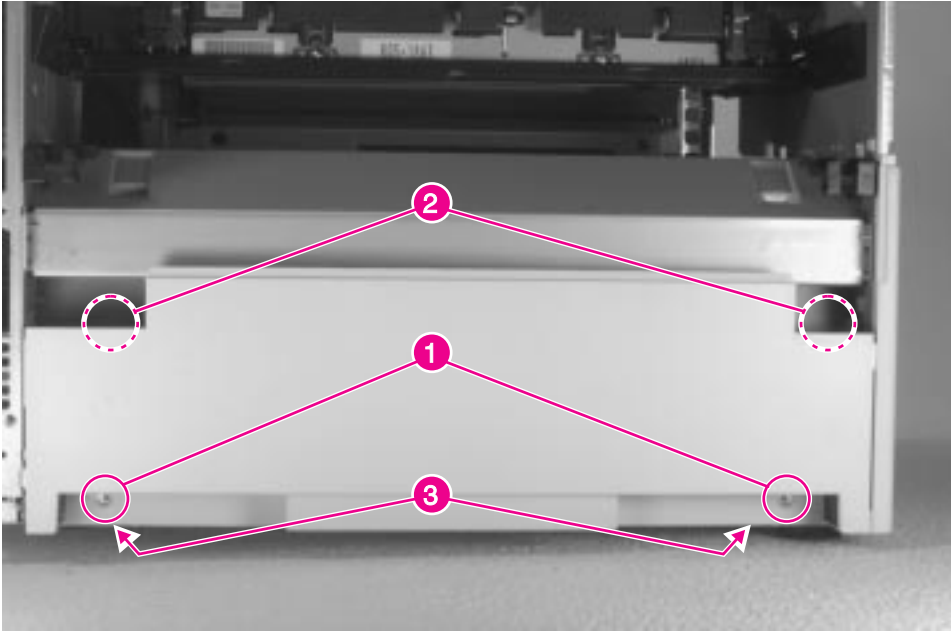

Figure 6-8 Left Lower Cover
- 2 Remove 2 screws (figure 6-8, callout 1).
- 3 Press down firmly on the top cover outer ends to release the retaining tabs on the inside of the cover (figure 6-8, callout 2) and the retaining tabs at the lower edge of the cover (figure 6-8, callout 3).